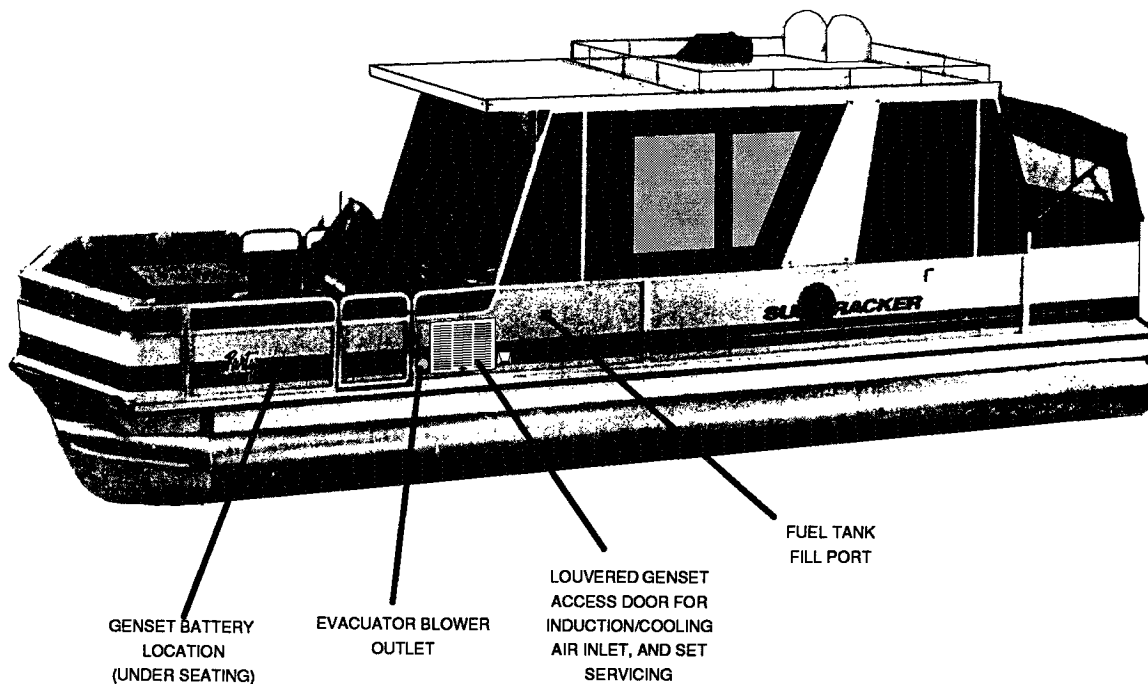

FIGURE 3-3. PREFERRED GENSET MOUNTING LOCATION
1. Install the generator set in its own compartment. See Figures 3-1 and 3-2 for genset dimensional data, and Figures 3-3 and 3-4 for recommended compartment location and design.
Figure 3-3 shows the preferred mounting location for pontoon boat installations.
See Figures 3-1 and 3-2 for dimensional data, and Figures 3-3 and 3-4 for recommended compartment location and design.